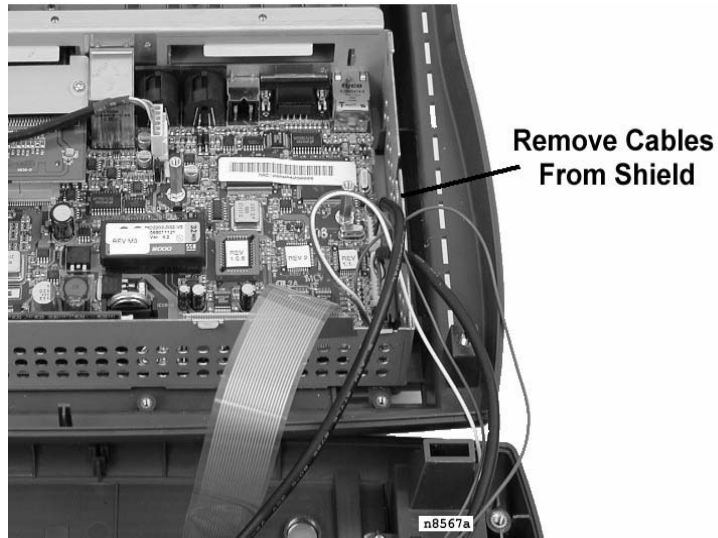

Figure 2-3: Removing cables from the RF Shield
7. Refer to Figure 2-3 and remove the cables from the slot in the side of the RF shield base.